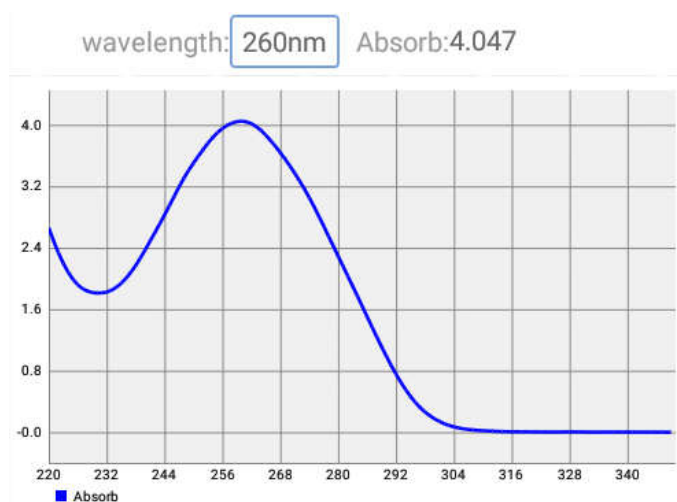

Fig 4.6 Nucleic Acids detection curve
4) Click it to input the wavelength and then the absorbance accordingly will be displayed as Fig 4.6.
⑤ **Enlarge Curve** : Click it to amplify the Fig 4.6 interface, you can move the red coordinate line to change the wavelength and view the absorbance accordingly.
⑥ **Back** : Click it back to the main interface.